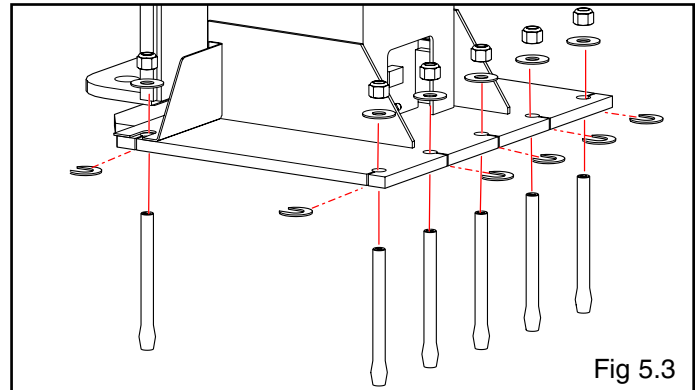

Fig 5.3
5. Insert the shims as necessary under the Base Plate so that when the Anchor Bolts are tightened, the Posts will be plumb. (See Fig. 5.3)